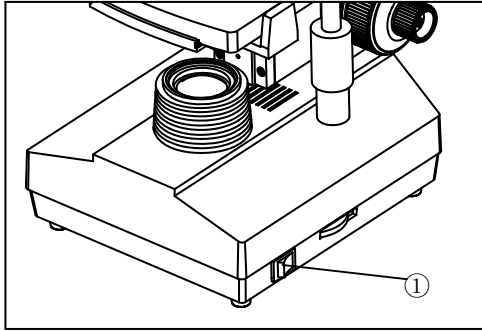

Fig.8
2.2.5 Connecting the power cord (Fig.8, 9,10)
2.2.6 Replacing the Fuse (图 8, 9, 10)